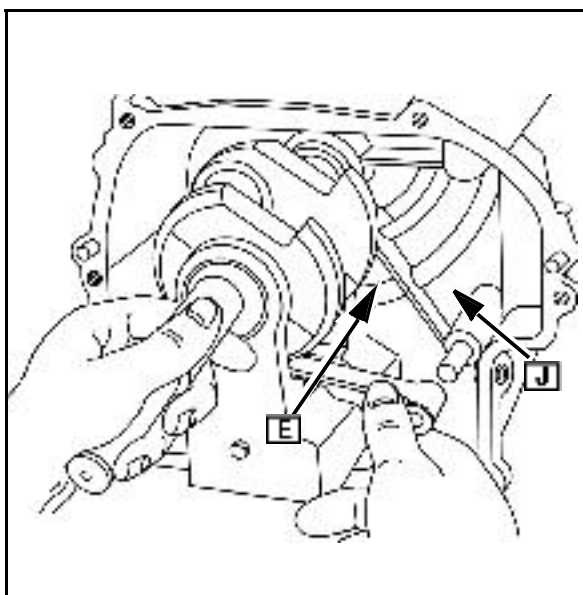

Fig. 20
9. Align link (E) with cylinder link pin ([J] Fig. 20). Push assembly into place.